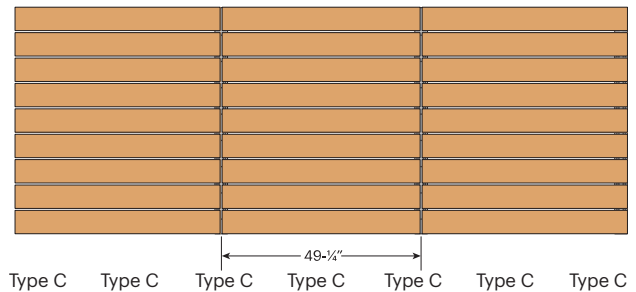

FIG. H7
- In a stacked layout, the on center spacing of the Type C profile will be 49.2" on center (1250mm). (FIG. H7)